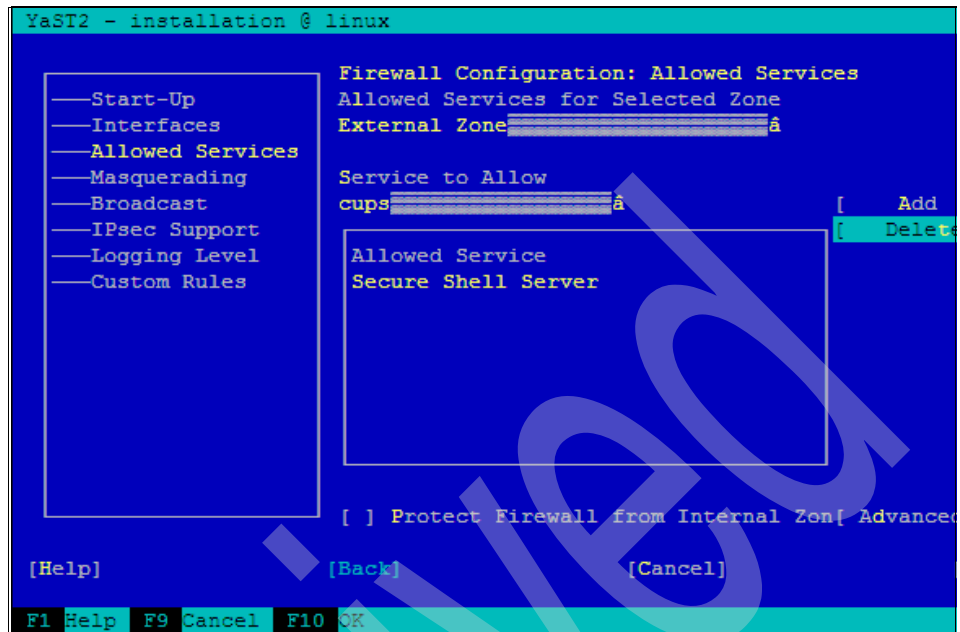

Figure 9-31 Allowed Service Secure Shell Server (SSH)
- e. SSH will appear in the **Allowed Service** list, as shown in Figure 9-31 on page 383. Press **[Next]** to confirm.